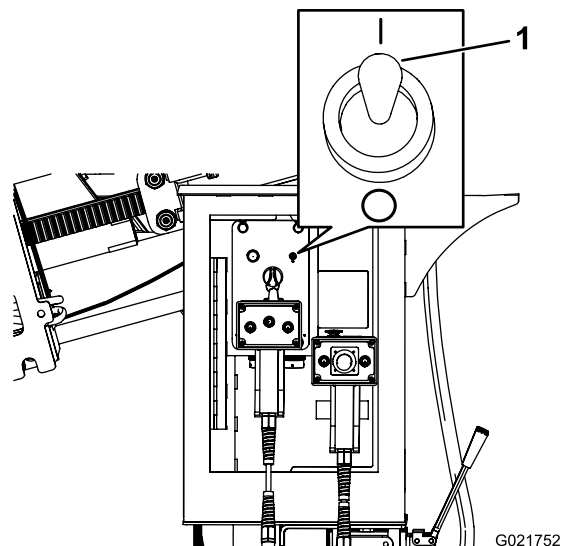

Figure 156
6. Turn the spray-hose attachment switch to the On position (Figure 156).